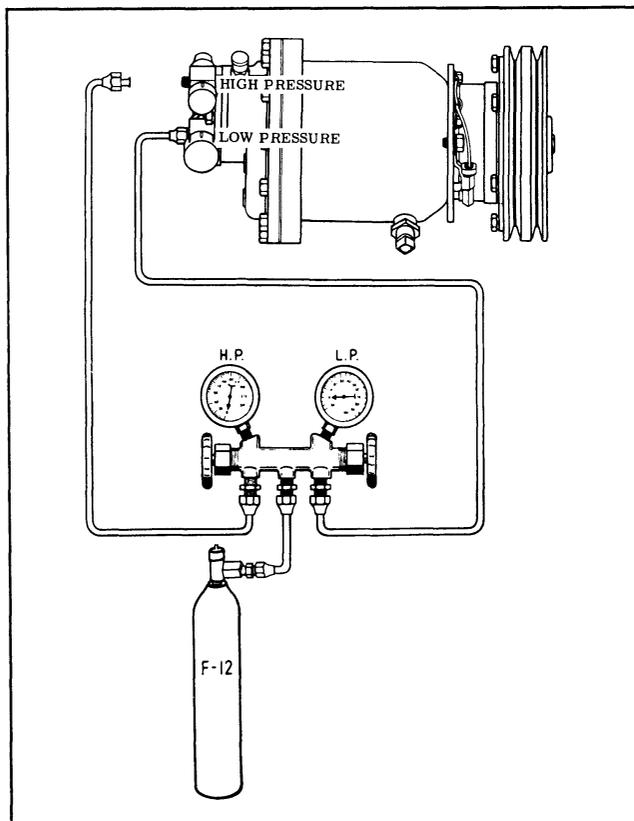

Fig. 14-29 Evacuating The System
1. Have gauge set and Freon drum connected as shown in Fig. 14-29.